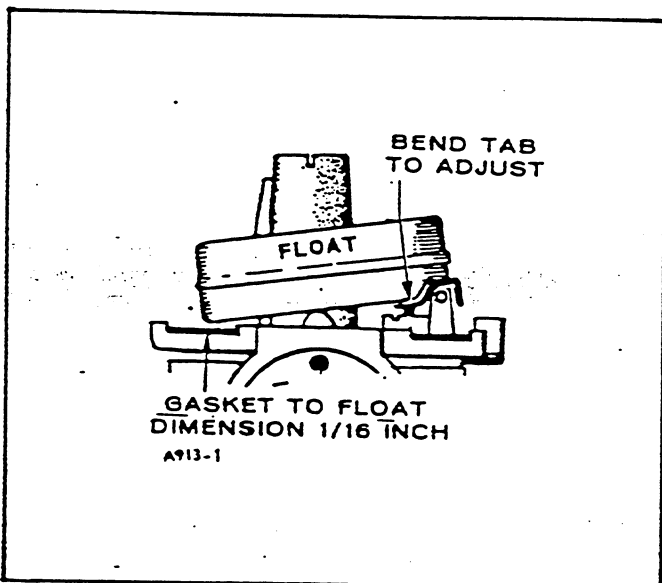

FIGURE 9. FLOAT LEVEL ADJUSTMENT
Check the adjusting needles and nozzle for damage. If float is loaded with fuel or damaged, replace it. The float should fit freely on its pin without binding. Invert the carburetor body and measure the float level, Fig. 9.
6. Check the float level with the carburetor casting inverted. See Figure 9.
To check float level, remove the entire main fuel adjustment assembly from the float bowl (unscrew large nut from float bowl - Figure 9). Invert the carburetor cover and float. With the float parallel to the cover gasket. The float tab should just touch the fuel inlet valve spring. With the float then hanging, its weight should compress the spring and the top of the float should be 1/16 - 1/8 from the cover gasket. The proper level from the float to the gasket should be 1/16" with the valve spring compressed. The float tab should just touch the fuel inlet valve and not compress the inlet valve spring. Adjust by bending the tab on the float.